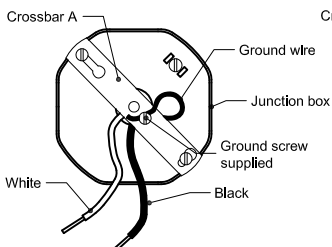
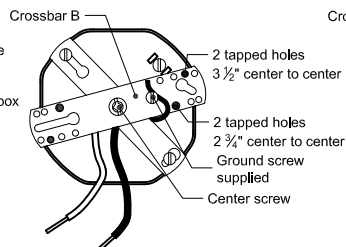
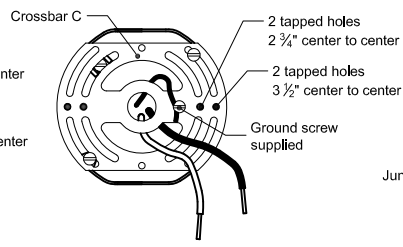

Fig. 1
Fig. 2
Fig. 3
- 1 - Make sure a ground wire is solidly attached under the ground screw provided with the crossbar (Fig. 1). When a ground wire is provided with the luminaire, make sure it is connected to the supply ground wire.
- 2 - For single crossbar, attach crossbar A to junction box (Fig. 1). Screw provided threaded nipple in the tapped hole in the center of the crossbar. Proceed to step 6.
- 3 - For double crossbar, attach crossbar A to junction box (Fig. 1). Attach crossbar B to crossbar A with center screw provided (Fig. 2). Align horizontally the 2 tapped holes (shown in black) and tighten center screw until crossbar B can no longer rotate. Proceed to step 5.
- 4 - For round crossbar, attach crossbar C to junction box (Fig. 3). Proceed to step 5.
- 5 - Screw the 2 threaded studs provided into the crossbar 2 tapped holes shown in black at Fig. 2 (double crossbar) or at Fig. 3 (round crossbar). The 2 studs should be 2 3/4" or 3 1/2" center to center, but this distance may vary. Check the distance between holes on the luminaire mounting plate. (Wedge anchors not provided for certain pedestals.)